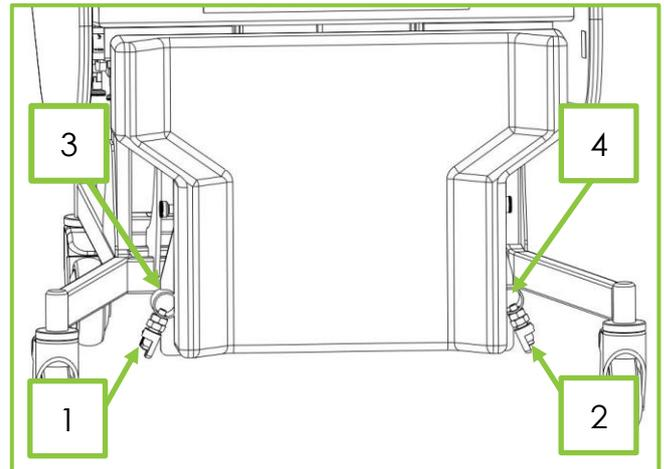
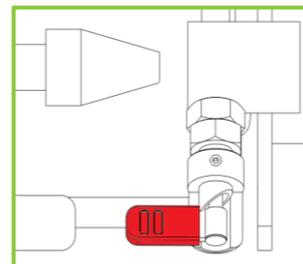
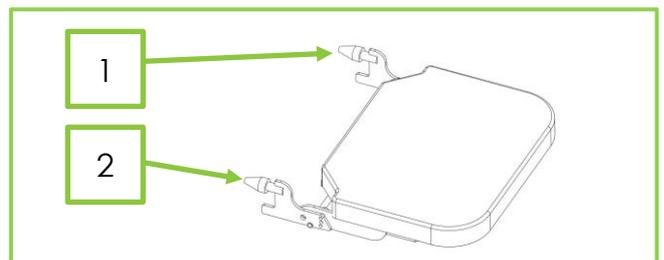

Figure 18
Figure 19 – Plunger Open
Figure 21
1. Ensure that the plungers that secure the footplate (Fig 18, Items 1&2) are in the closed position (Fig 19).
2. Take the footplate (Fig 21) and insert the two tapered spigots (Fig 21, Items 1&2) into the two sockets either side of the footplate height adjustment frame (Fig 18, Items 3&4). Push the footplate into the tubes until the plungers latch with an audible click.
1. Locate the plungers that secure the footplate either side of the leg rest, at the bottom of the footplate height adjustment frame (Fig 18, Items 1&2).
2. Turn the levers on the two plungers towards the front of the chair until they latch. The lever arm plungers are now locked in the open position. See Figure 19.